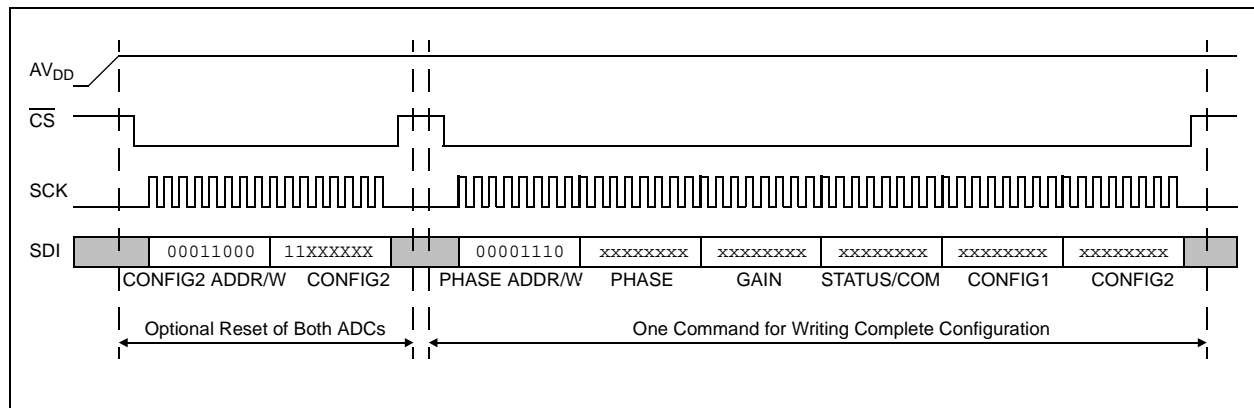

FIGURE 6-7: Recommended Configuration Sequence at Power-up.
- Write all Configuration registers in one communication (see Figure 6-7)
It is recommended to enter into ADC Reset mode for both ADCs, just after power-up, because the desired MCP3901 register configuration may not be the default one, and in this case, the ADC would output undesired data. Within the ADC Reset mode (RESET<1:0> = 11), the user can configure the whole part with a single communication. The write commands automatically increment the address so that the user can start writing the PHASE register and finish with the CONFIG2 register in only one communication (see Figure 6-7). The RESET<1:0> bits are in the CONFIG2 register to allow exiting the Soft Reset mode, and have the whole part configured and ready to run in only one command.